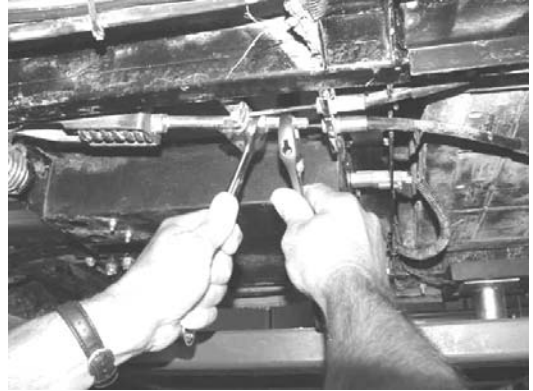

Fig. 15 Adjusting cable
16. Adjust brake cable tension so that brake pads drag against rotor. (See Fig. 15) Then firmly actuate brake pedal a few times. Loosen brake cables just enough that the rotors spin freely. Firmly actuate pedals each time you make an adjustment. Cables should be tight enough for good pedal feel but not cause brake drag.